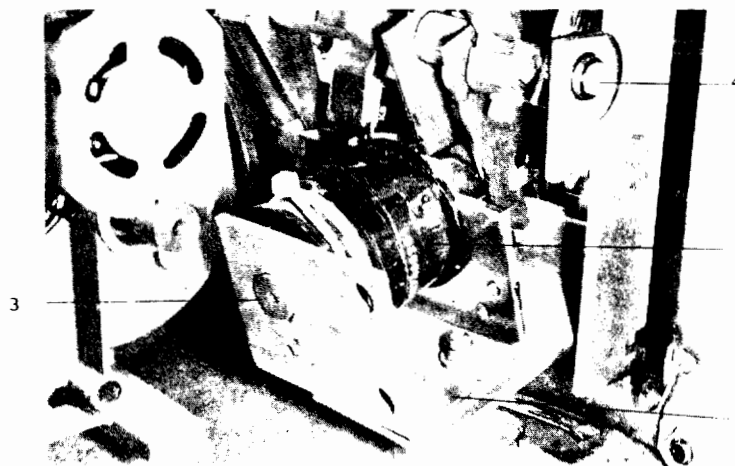

Fig. A4 Close Coil
Remove the breaker front plate to gain access to the trip, (Fig. A3) or close coils (Fig. A4). To replace trip or close coils, cut wires at the butt connection (6) Fig. A3, loosen the coil bracket bolt closest to the plunger and remove the other bracket bolt. Pivot the bracket and remove the coil. Drive out the pole piece and install in the new coil. Slide the new